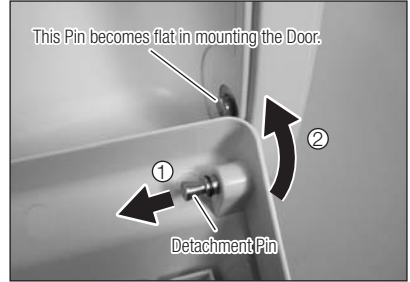

Fig. 18
- 2) With pulling the Detachment Pin on right, mount the Door to fit position with the Pin on the right side of the chamber until it locks with click sound. (Fig. 18)